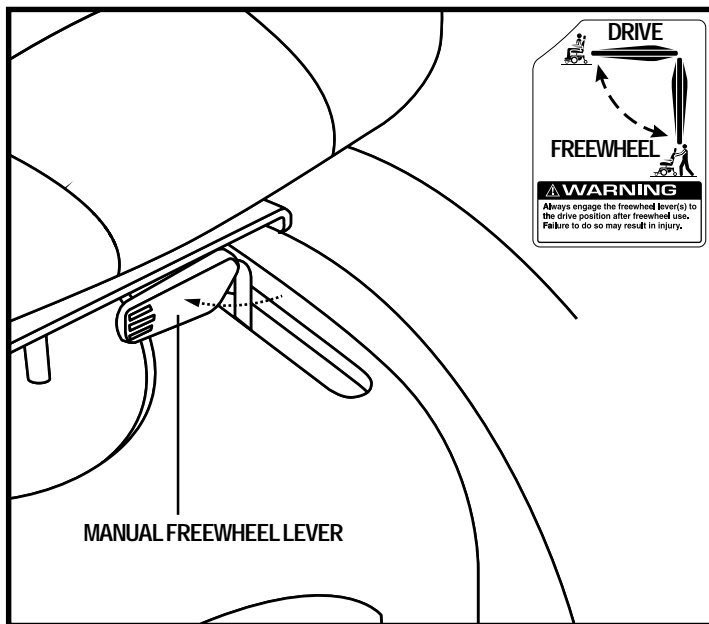

Figure 7. Drive Mode (Drive Engaged)
2. Turn the levers inward to engage the drive motors. See figure 7.